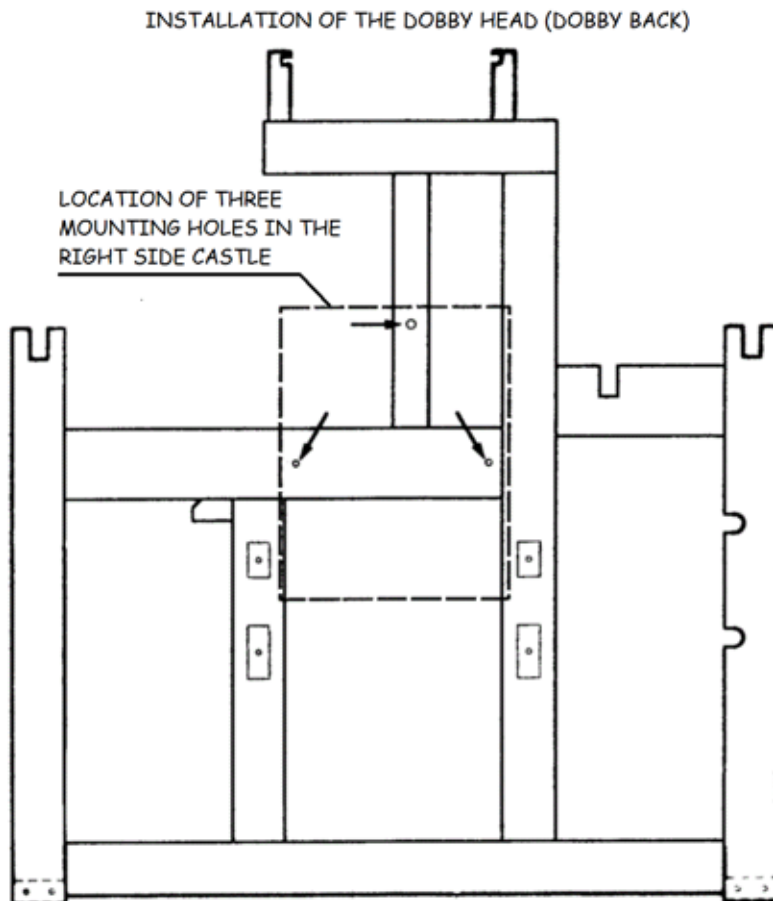

FIG. 3-13
INSTALL THE DOBBY BACK (FOR YOUR COMPU-DOBBY) (see Figure 3-13)
- 2) Figure 3-13 shows the location of the three mounting holes pre-drilled in the right side castle. Note that three mounting bolts protrude from the back of the Dobby Back. If any of these have come loose, you'll need to reposition them from inside the Dobby Box. Note that each bolt head seats in a recess in the wood.
- 3.) Remove the nuts and washers from the mounting bolts and carefully align the Dobby Back over the corresponding holes located in the right side of the loom frame (as shown in Figure 3-13). You can drape the bundled harness cables up and over the top of the pulleys located directly above the Dobby Back.